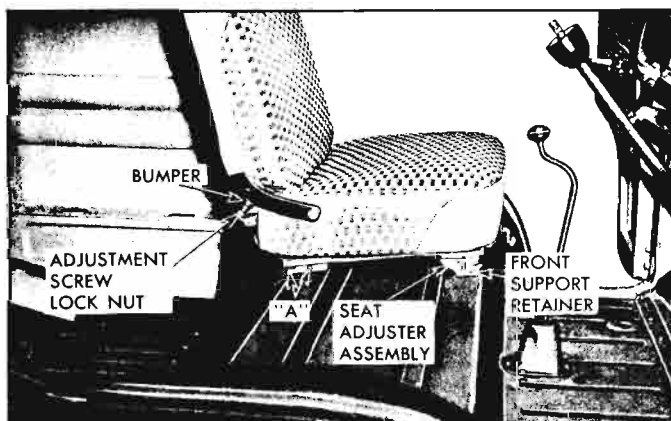

Fig. 10-100a—Seat and Adjuster Installation
1. Remove two cap screws and washers from each seat adjuster ("A", fig. 10-100a).
2. Tilt seat forward; then lift seat assembly from seat adjustment front support retainers (fig. 10-100a).
seat assembly in vehicle; inserting seat adjuster in the front support retainers (fig. 10-100a). Install two cap screws and washers in each seat adjuster support ("A", fig. 10-100a), tighten these cap screws firmly.